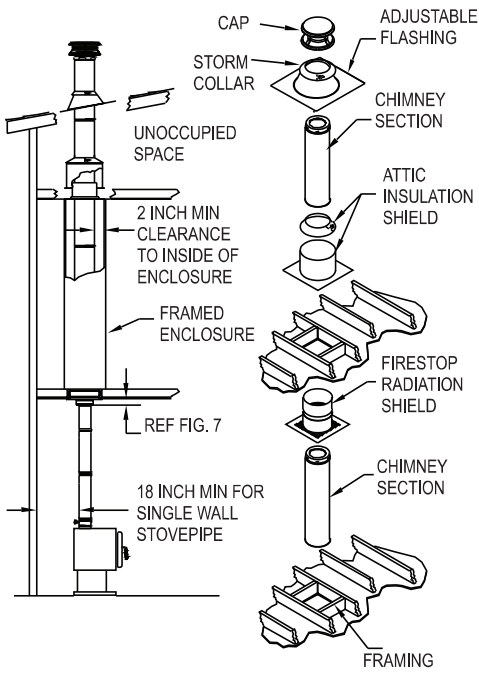

Figure 10
4. Frame Openings: Frame openings in each ceiling or floor above the Support Box (Fig.10). These openings are to hold the Firestop Radiation Shield and Attic Insulation Shield. Locate each opening by dropping a plumb bob to the four corners of the opening below. Maintain the framing dimensions as specified in Table 1. **Warning: other than the framing for the Reduced Clearance Support Box, any combustible materials around the chimney must meet the minimum 2" clearance requirement.** If Elbows must be used to avoid an obstruction, refer to the Offset Elbow Installation section.
Box is in the 1st floor ceiling), you would need a Firestop Radiation Shield at the 2nd floor ceiling, and at the 3rd floor ceiling, etc., including where the chimney penetrates into the attic. **Fig.10** shows a typical 2-story installation with an attic. Note: a Firestop Radiation Shield is not installed where the chimney penetrates through the roof. The Firestop Radiation Shield is installed on the underside of the ceiling/floor framing, with the cylindrical “tube” portion of the shield pointing upward. (**Fig.11**). Use a minimum of either (1) 8 penny nail or (1) #8, 1-1/2” wood screws per corner. Refer to **Table 1** for framing requirements.
**B4.** Slip the Attic Insulation Shield over the Chimney and Firestop Radiation Shield until the base sits squarely on the framed opening (**Fig.10, 13**). If desired, non-combustible insulation may be installed in the Attic Insulation Shield. Before installing, add a 2" thick blanket of insulation around the inside of the Attic Insulation Shield, then slip over the Chimney.